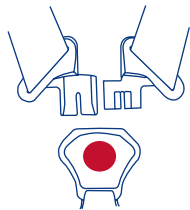
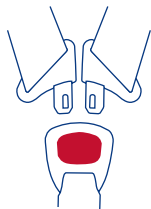

Fig. 36-1
Fig. 36-2
- Type A: Put the two buckle tongues together, overlaying the left buckle tongue onto the right buckle tongue, and insert the two joined buckle tongues into the harness buckle on the crotch strap (Fig. 36-1). Type B: Insert each buckle tongue into the harness buckle (Fig. 36-2).